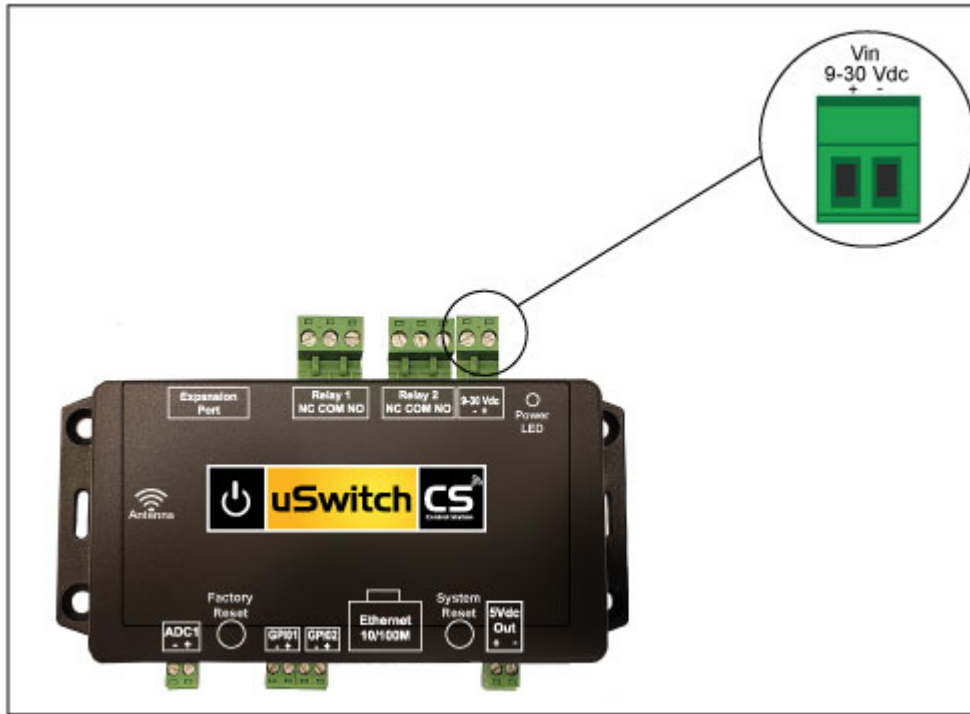

Figure 1
1. uSwitchCS can be powered by a DC regulated power supply in the 9-30Vdc range. Connect the appropriate DC power supply to the + and - terminals in Figure 1 (regulated power supply recommended). The power supply should be rated to meet the operating current of the uSwitchCS (see appendix C for power specifications) along with any expansion modules that receive power from the uSwitch. As shown in the photo, the + terminal is closest to the outside edge; the - terminal is closest to the "Relay" connectors.